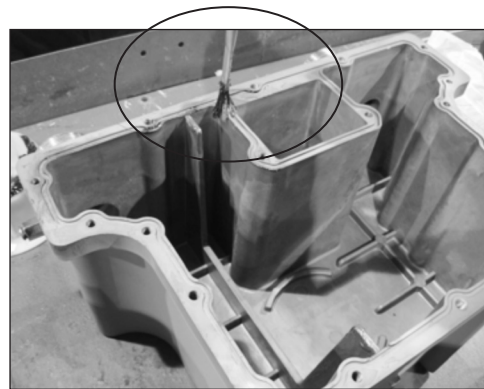

Figure 9.45 - Apply grease to rear enclosure
4. Apply grease to the outside rim of the rear enclosure as shown in Figure 9.45.